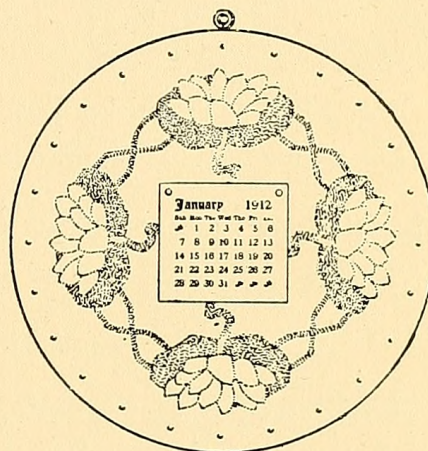

FIG. 282. — A Calendar Board.
**A Calendar Board** like the one shown in Fig. 282 will make a pretty Christmas or New Year's gift. Its construction is similar to that of the tea-pot stand, with the omission of the feet and the addition of a brass screw-eye screwed into the top by which to hang it up. A small calendar can usually be bought at a stationery store, and this should be attached to the exact center of the board by means of two escutcheon pins driven through the corners of the top margin.